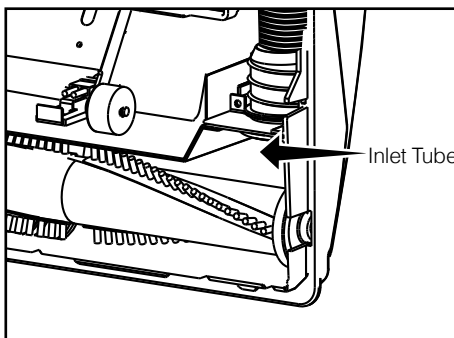

Fig. 2
- Turn the vacuum over and remove the bottom plate (See page 18). Check the nozzle inlet tube for obstructions (Fig. 2). Clear tube and reinstall the bottom plate.